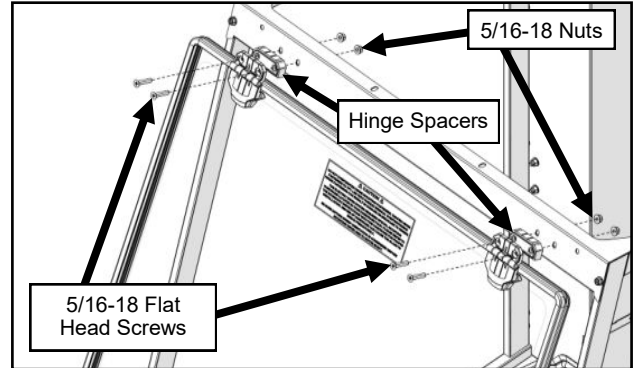

Fig. 11.1 (Windshield)
11.1 With assistance, set the windshield up to the side frames and secure it to the windshield support using the hinge spacers and hardware. See Figure 11.1. Leave hardware loose.